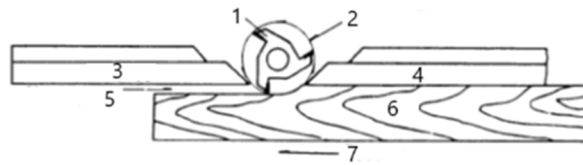
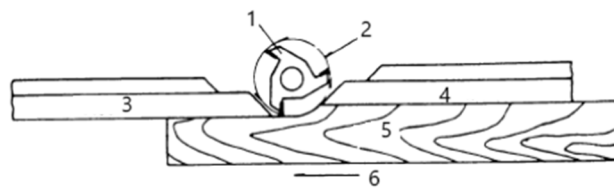

Figure 2
Figure 3
2. When the shaping operation removes the entire edge of the work (i.e. jointing or making a full bead), the shaped edge will not be supported by the rear fence when both fences are in line as shown in figure 2. In this case, the workpiece should be advanced to the position shown in figure 3 and stopped.
3. The front fence should be advanced to contact the work as shown in figure 3. The rear fence will then be in line with the cutting circle.